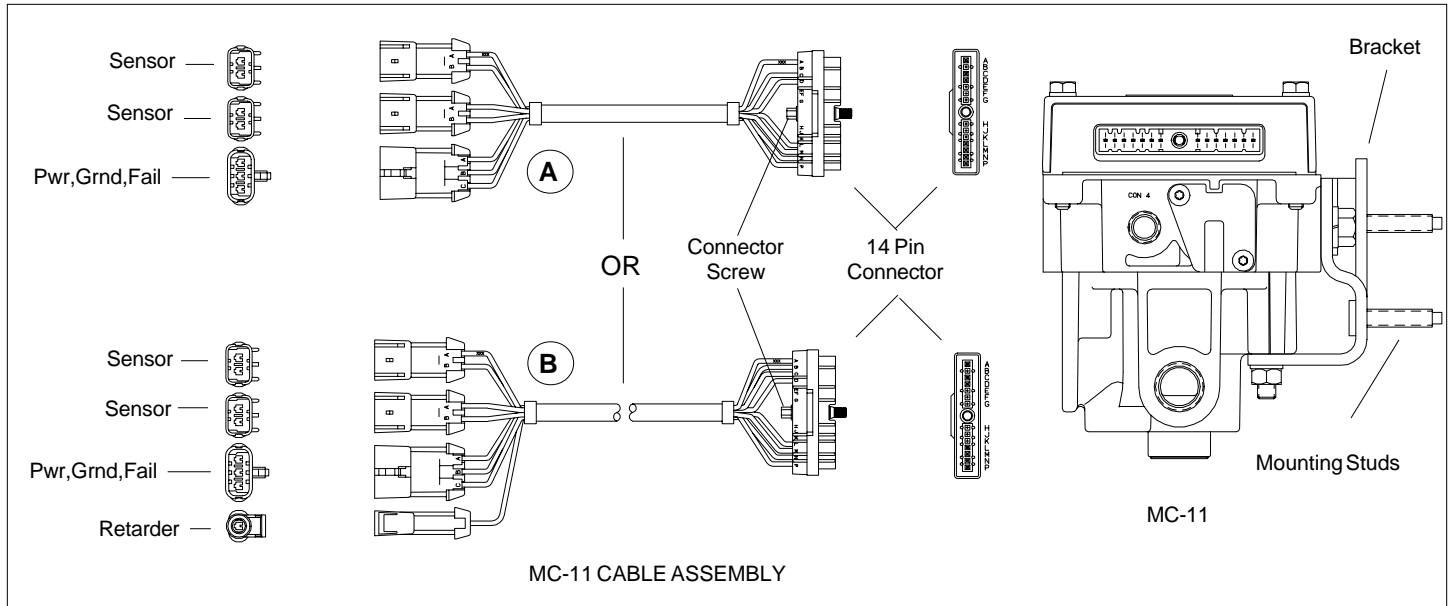

FIGURE 1 - MC-11 INSTALLATION
4. Refer to Figure 1 when installing the MC-11 cable assembly. Vehicles without a retarder use cable assembly "A," and vehicles with a retarder use cable assembly "B."